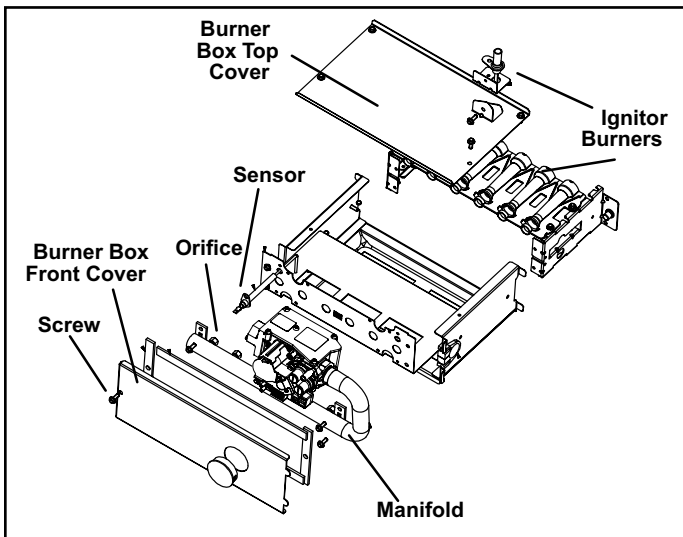
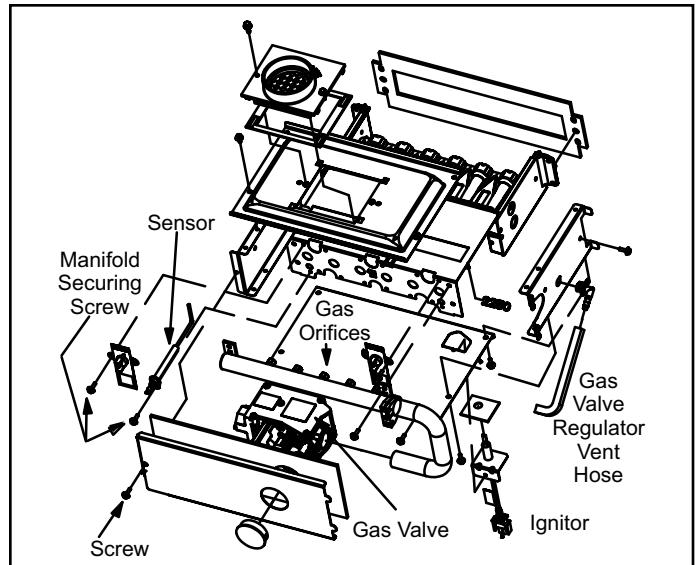

Figure 3. 80% Two-Stage Burner Box
Figure 4. 90% Two-Stage Burner Box
4. Remove the screw that secures the burner box front cover and remove front cover. See Figure 3 or Figure 4.
5. Remove the four manifold securing screws. Remove the manifold/gas valve assembly. Replace the burner orifices with those provided. Torque to 75-90 in-lbs. Do not use thread sealant. See Figure 3 or Figure 4.